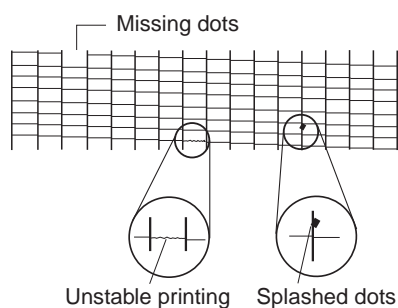

Figure 3-12 Defective Pattern (Sample)
- (1) Check that the orange cap or tape is not on the BJ cartridge.
- (2) Carry out nozzle cleaning on the BJ cartridge five times with the cleaning operation, then visually check the test print for non-discharge of ink from nozzle. (*Fig. 3-12*)
- (3) Remove and reinstall the BJ cartridge.
- (4) Replace the appropriate ink tank.
- (5) Replace the BJ cartridge.
- (6) Replace the purge unit.
- (1) Carry out nozzle cleaning on the BJ cartridge five times with the cleaning operation, then visually check the test print for non-discharge of ink from nozzle. (*Fig. 3-12*)
- (2) Remove and reinstall the BJ cartridge.
- (3) Replace the appropriate ink tank.
- (4) Replace the BJ cartridge.
- (5) Check the connection of the carriage ribbon cable and the PCNT board. (J501/502)
- (6) Check the connection of the carriage ribbon cable and the carriage board. (CN1/CN2)
- (7) Replace the carriage ribbon cable.
- (8) Replace the carriage board.
- (9) Replace the PCNT board.
- (10) Replace the purge unit.